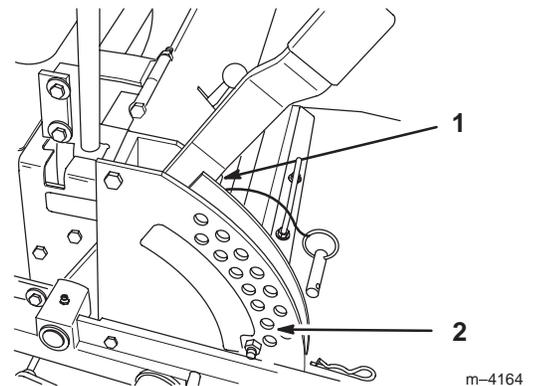

Figure 64
- Place two 1-1/2 inch (38 mm) thick blocks under rear left and right lower edge of mower. Place one 2-1/4 inch (57 mm) block under front center lower edge of mower. Lower mower to the 2 inch (51 mm) height-of-cut position (Fig. 64).
1. Raise deck lift lever to the transport position, (Fig. 64).